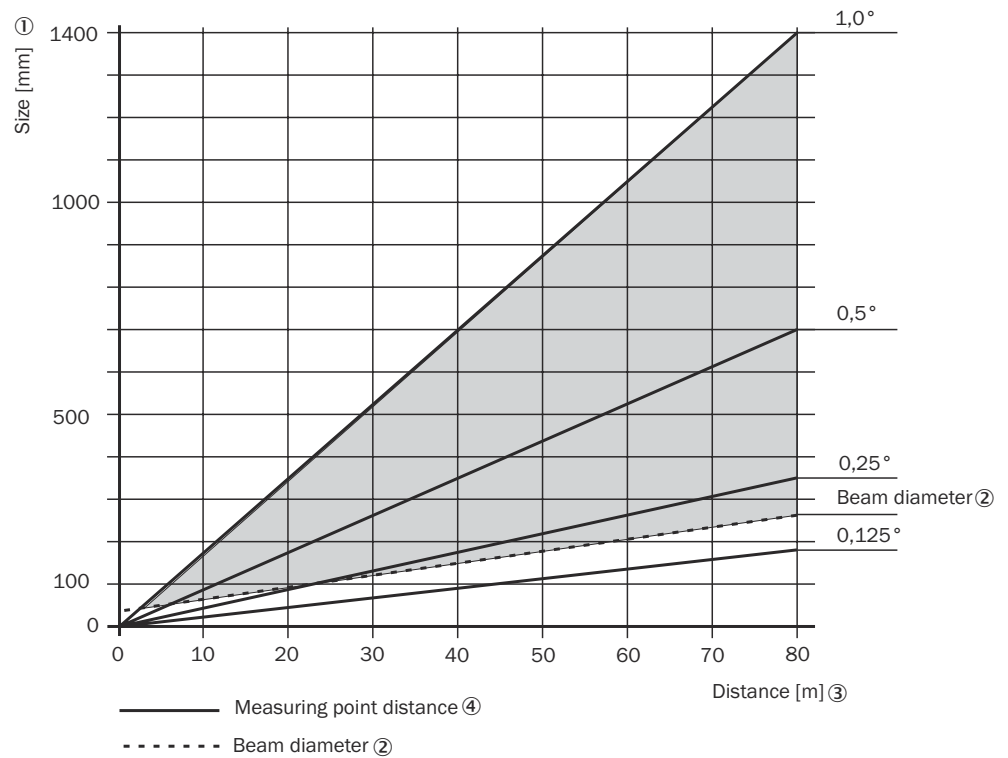

Figure 9: Beam diameter and measuring point distance at 0 to 80 m
The graph in figure 9 shows the beam diameter and the measuring point distance depending on the distance to the device.
Reading example for an angular resolution of 0.125° in figure 9
- Beam diameter and measuring point distance as a function of the distance to the device can be seen in the diagram in see figure 9, page 15.